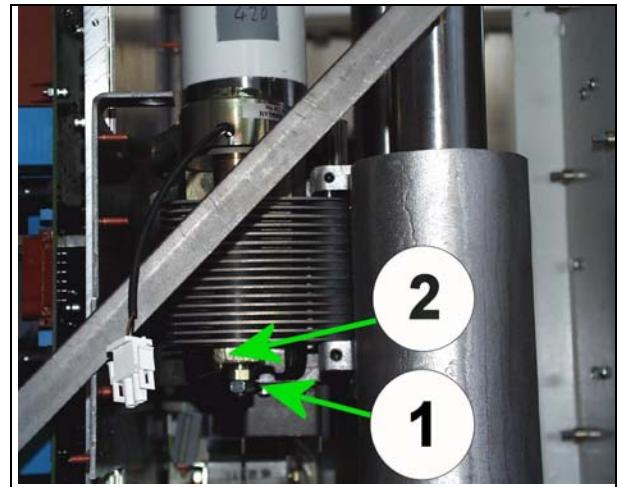

Fig. 3
- Loosen the grub screw 2 / Fig. 3 in the axle guide of the holder.
- Unscrew the nuts and lock nuts completely 1/ Fig. 3.
The new swivel brake is equipped with a smaller nut and lock nut (position see1/ Fig.3). In this way these do not have to be removed on the swivel brake when installing.
- Insert the new brake in the axle guide of the holder (see 1/ Fig. 3).